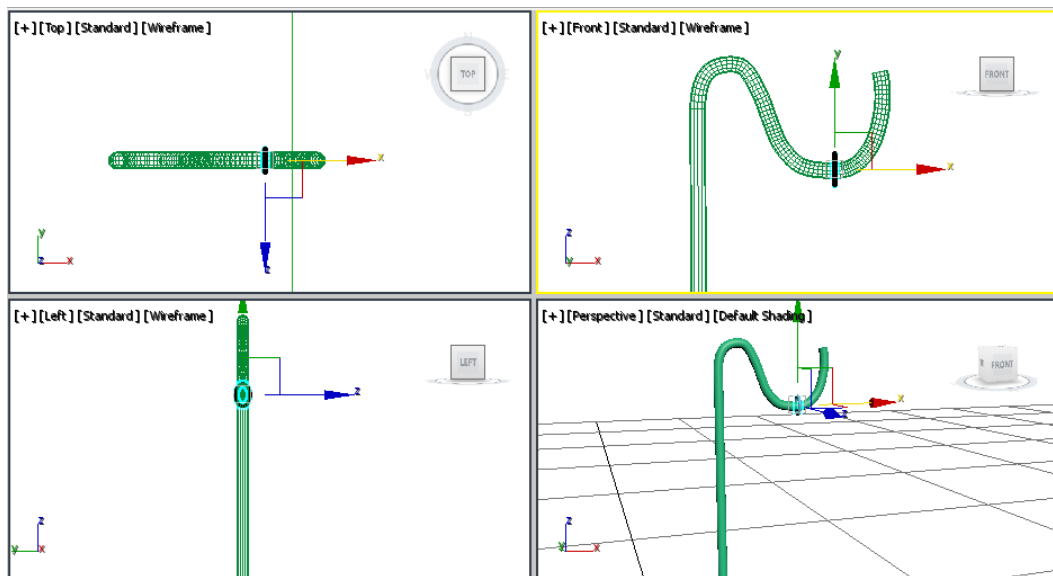

Figure 5-29 The joint aligned in all viewports
5. Invoke the **Maximize Viewport Toggle** tool to display all viewports. Make sure the **Select and Move** tool is invoked in the **Main Toolbar** and align *joint* in all viewports, as shown in Figure 5-29.